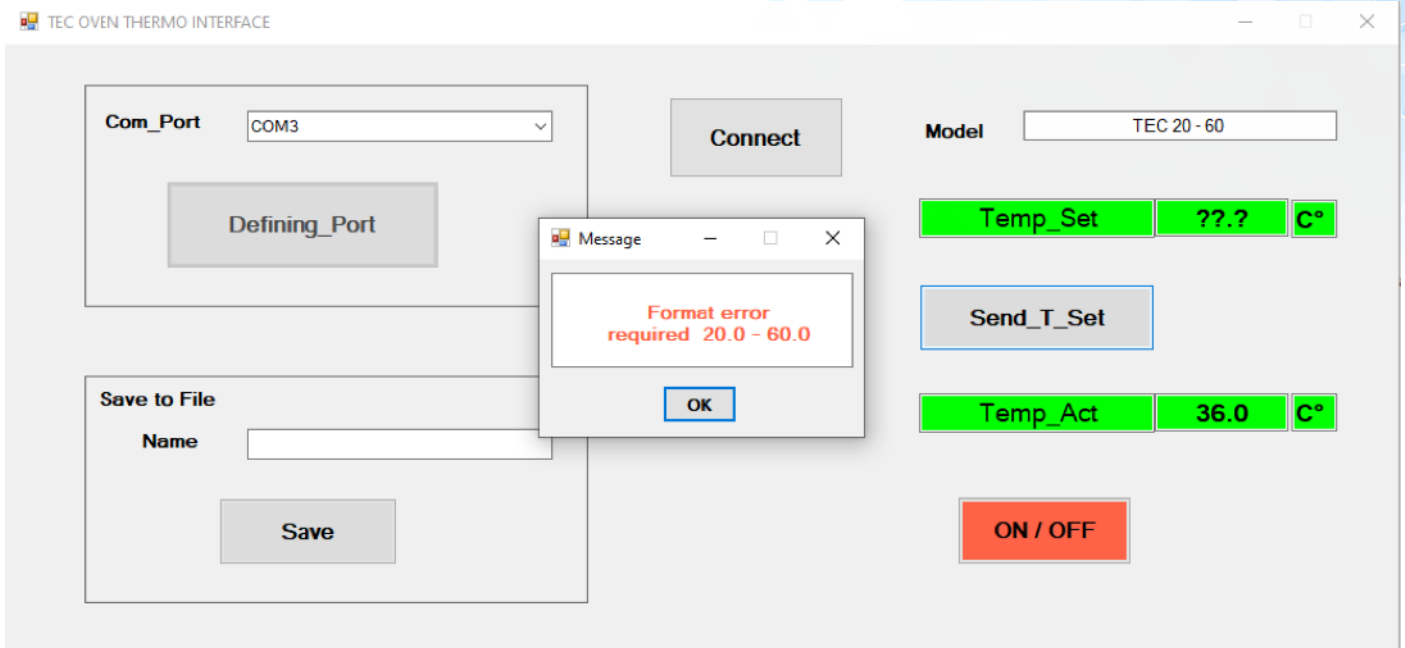

FIGURE 6. User Interface Software
- If the desire temperature format is incorrectly set, the message **'Format error. required 20.0 – 70.0'** appears. (figure 6)